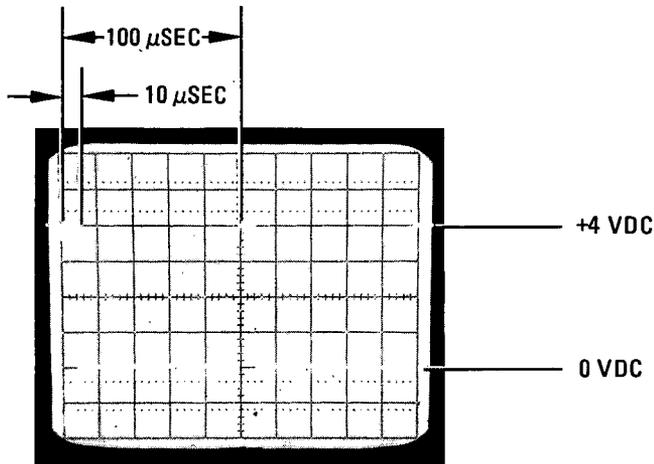

Figure 5-10. Pulse Generator Output for a 10% Duty Cycle
- c. Set pulse generator for a 0 to +4 volt pulse with a 10 microsecond pulse width repeating every 100 microseconds (10% duty cycle as shown in Figure 5-10).